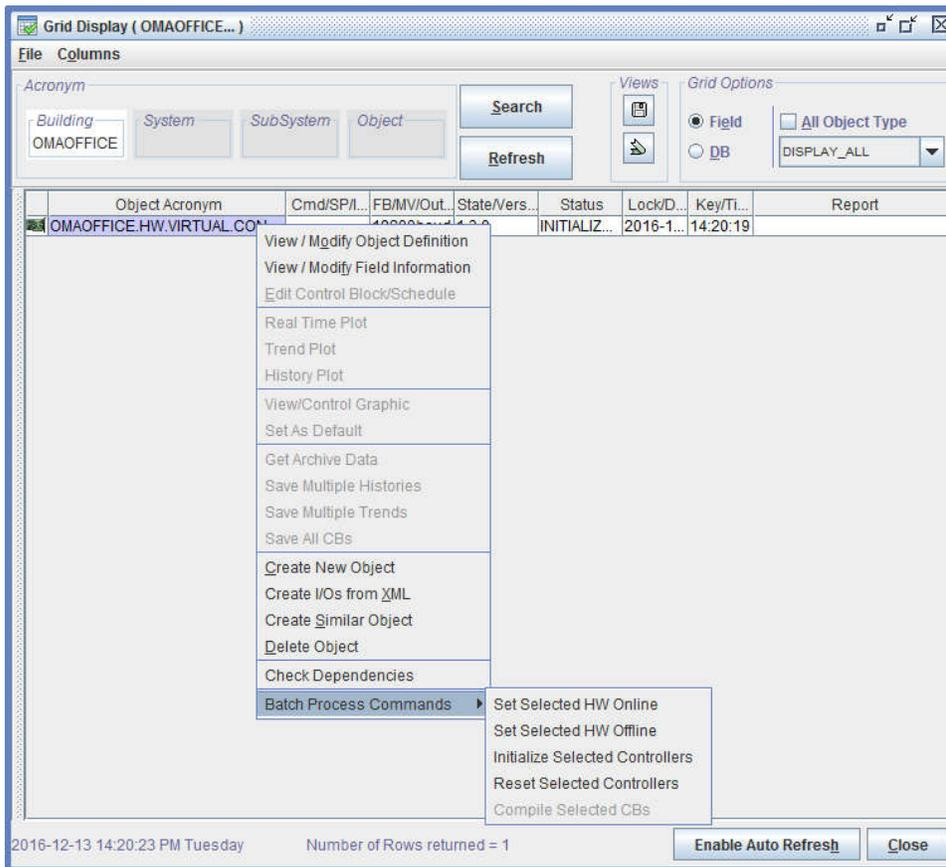

Figure 98 - Batch Process Commands
Batch Process Commands groups batch commands to manage controller, hardware, and control blocks. Those commands include (Figure 98):
3. Click Batch Process Commands (Figure 98)